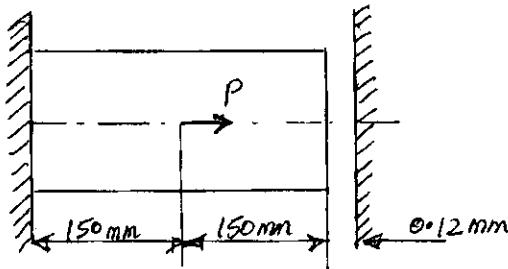

Fig.Q4(b)
b. Determine the displacement at nodes and support reaction for the bar shown in Fig.Q4(b).